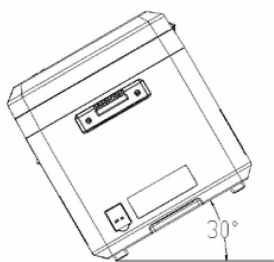

Fig. 3
c. As shown in Figure 3, when the tilt angle in the direction exceeds 30 degrees, turn off the compressor, the machine's buzzer will beep three times and the E0 alarm will flash. Once equalized, the display screen will restore the current temperature inside the box. After leveling for 3 minutes, the compressor restarts.